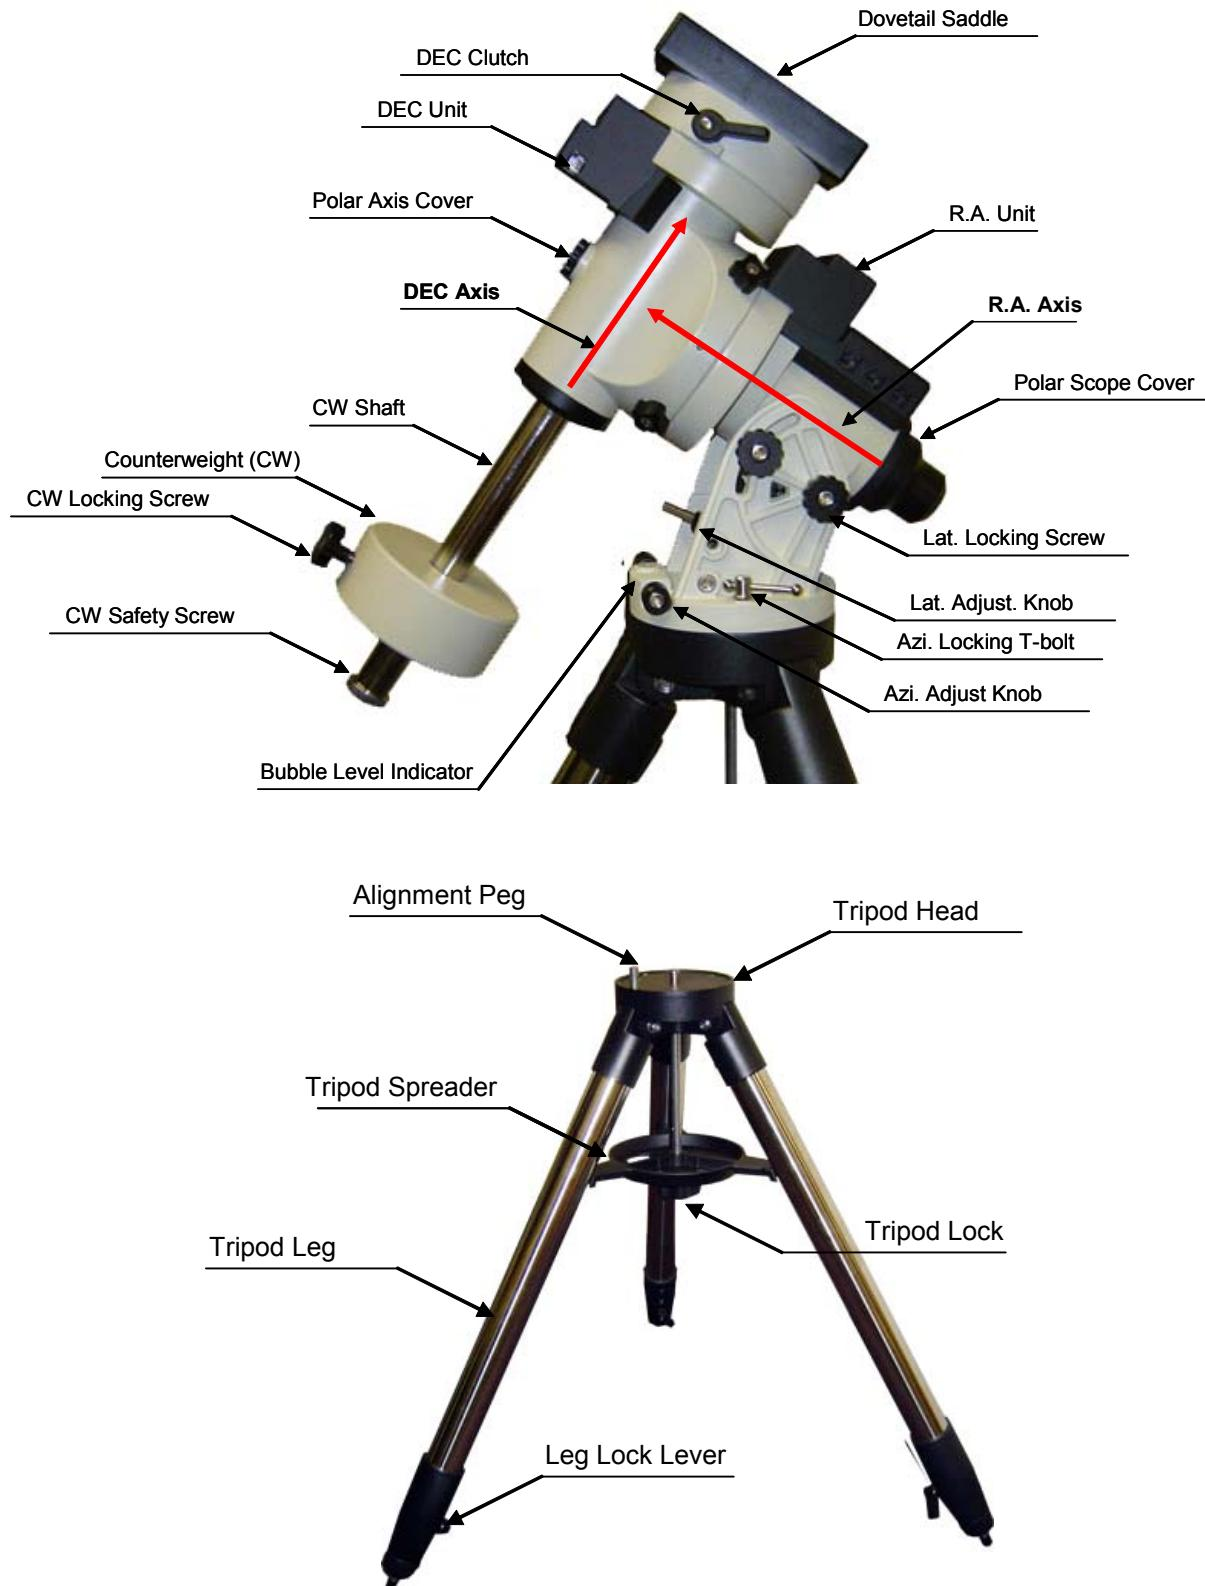

Figure 1. iEQ45 assembly terms (mount and tripod)
Carefully remove the mount from the shipping box and familiarize yourself with the components shown in Figure 1. Unlock the four (4) R.A. Clutch Screws and rotate the mount 180° around the R.A. axis to move the dovetail saddle face topside to the highest vertical position as shown in Figure 7. Tighten the R.A. Clutch Screws.